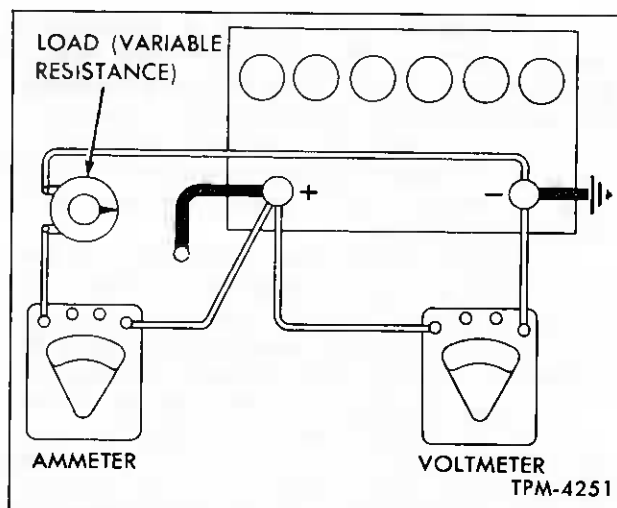

Figure 4—Typical Connections for Battery Capacity Test
1. Connect positive voltmeter and ammeter leads to battery positive post and negative voltmeter and ammeter leads to battery negative post (fig. 4).